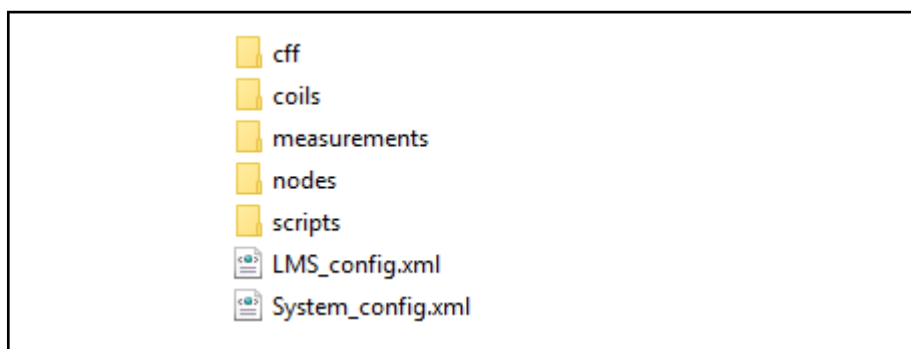

Fig. 2-2: XML folders and files created or used by the Commissioning Tool
- The Commissioning Tool creates the `LMS_config.xml` file which describes the layout of the LMS system. One XML file is created for all coils. The coil XML file contains all parameters of all coils. You can also create an XML file for each coil separately. It is advised to store the coil XML file(s) in a separate folder, as shown in fig. 2-2 "XML folders and files created or used by the Commissioning Tool" on page 4.